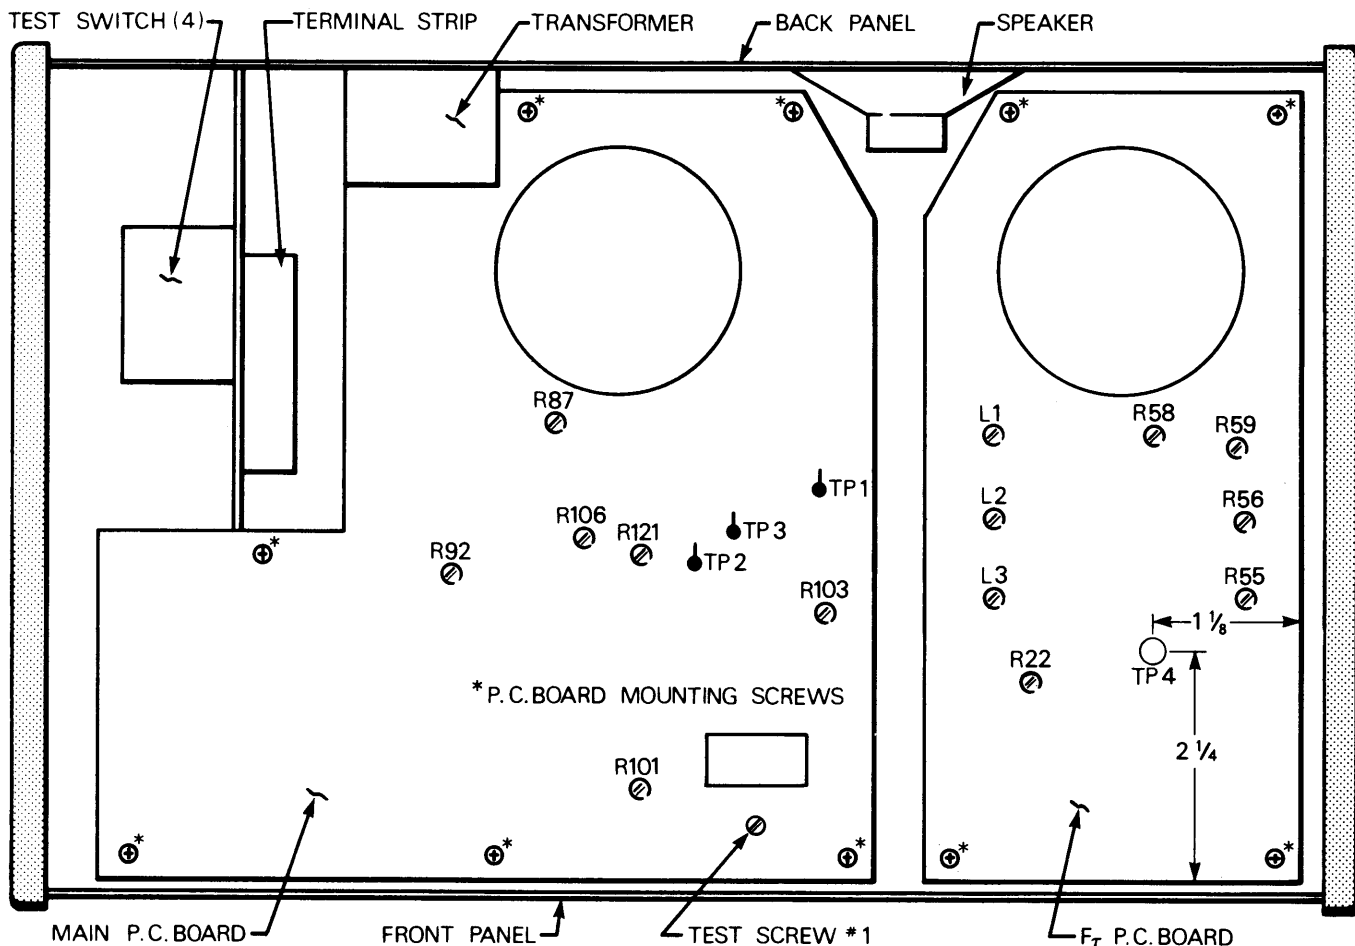
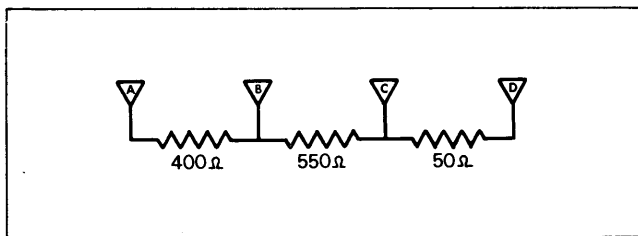
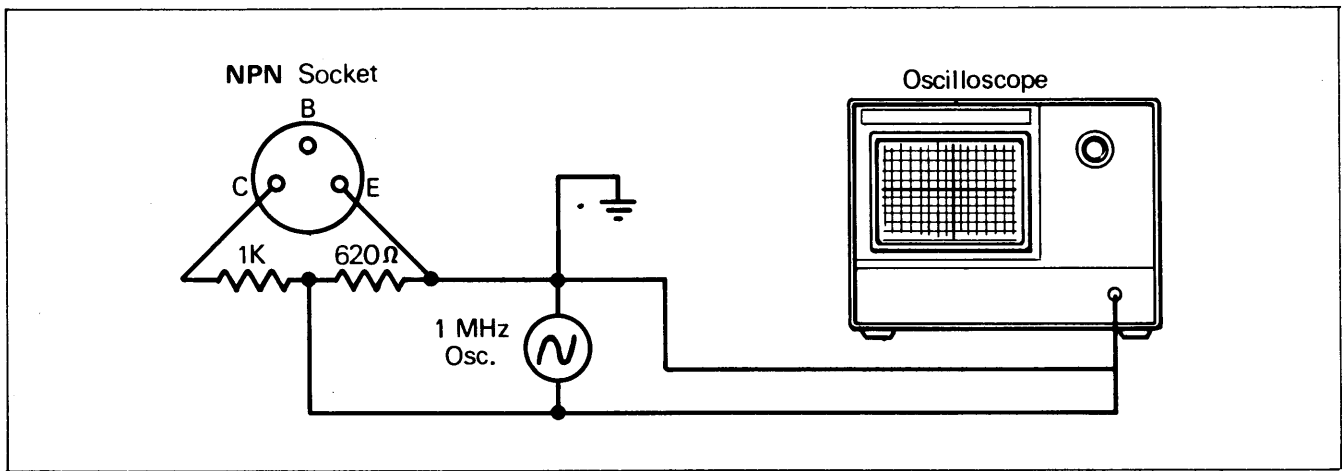

Fig. 8. Bottom view of Model 530, with bottom panel removed.
Fig. 9. Resistive network.
Fig. 14. Field calibration,  $f_r$  circuit.
1. Turn the Model 530 power off. If LEAKAGE/GAIN meter (19) does not indicate zero, insert a suitable screwdriver in the hole just below the meter and adjust it to indicate zero on top scale.
2. Turn the Model 530 power on, if the LEAKAGE/GAIN meter (19) indicates zero on top scale, proceed to step #4. If the LEAKAGE/GAIN meter (19) does not indicate zero, turn the 530 power off, unplug the unit and remove the 530 bottom panel by removing the five screws (three on bottom panel and two on back panel).
3. Plug in the unit and turn power on. Adjust the zero control trimpot R-87 with suitable screwdriver so that meter is at zero. Refer to Fig. 8 for trimpot location.
4. With power on, set the HI PWR/LO PWR switch (10) to "LO PWR" position. Turn TRANSISTOR BETA/FET  $g_m$  switch (9) to "TRANSISTOR BETA" position. LEAKAGE/GAIN meter (19) should read zero on top scale; if not, remove bottom panel of the 530 and adjust zero  $\beta$  CAL
trimpot R-106 with suitable screwdriver (while holding the TRANSISTOR BETA/FET  $g_m$  switch (9) in "TRANSISTOR BETA" position) so that the LEAKAGE/GAIN meter (19) reads zero on top scale. Refer to Fig. 8 for trimpot location.
- The Model 530 LEAKAGE/GAIN meter (19) should read  $900 \mu\text{A}$  on top scale. If meter does not read  $900 \mu\text{A}$ , unplug the 530 and remove the bottom panel.
- Plug the 530 into the power source and repeat step #5. With suitable screwdriver, adjust trimpot R-103 so that LEAKAGE/GAIN meter (19) reads  $900 \mu\text{A}$  on top scale. Refer to Fig. 8 for trimpot location.
- Build yourself a simple resistive network as shown in Fig. 9 (either by fixed resistors or by adjusting trimpts).
- Remove the small grounding TEST screw #1 and washer from back of the main P.C. board (at the corner next to the pushbutton switch). Refer to Fig. 8. Connect a lead between point "A" of the resistive network (Fig. 9) and main P.C. board test point 2 (TP-2); also connect a lead between point "D" (Fig. 9) and main P.C. board test point 3 (TP-3). Refer to Fig. 8.
- Set HI PWR/LO PWR switch (10), of the Model 530, to the "LO PWR" position. Set NPN/PNP switch (12) to the "NPN/N-CH" position. Lever Test switch (4) should be in the top-most position. Connect the blue test lead, which should be plugged into the blue test lead socket (6), to point "C" of resistive network (Fig. 9).
- Plug the Model 530 into the power source and turn power switch (11) on. Turn TRANSISTOR BETA/FET  $g_m$  switch (9) to "TRANSISTOR BETA" position. LEAKAGE/GAIN meter (19) should read "50" on LO  $\beta$  scale. If not, adjust main P.C. board trimpot R-121 with suitable screwdriver (while holding the TRANSISTOR BETA/FET  $g_m$  switch (9) in "TRANSISTOR BETA" position), so that the meter reads "50" on LO  $\beta$  scale. Refer to Fig. 8.
- Connect the blue test lead to point "B" of the resistive network (Fig. 9). Turn the TRANSISTOR BETA/FET  $g_m$  switch (9) to "TRANSISTOR BETA" position. The LEAKAGE/GAIN meter
(19) should read full scale. If not, adjust main P.C. board trimpot R-101 with suitable screwdriver so that LEAKAGE/GAIN meter reads full scale. Refer to Fig. 8. Unplug the Model 530 from power and disconnect all leads. Replace test screw #1 and washer to its original position. Refer to Fig. 8.
1. Turn Model 530 off. If  $f_r$  OUT-OF-CIRCUIT meter (18) does not indicate zero, insert a suitable screwdriver in the hole just below the meter and adjust it to indicate zero on the top scale.
3. Turn Model 530 power on. Without any transistors plugged into  $f_r$  sockets (15) or (16), check for  $f_r$  meter (18) reading of zero for each range selected on the RANGE, MHz Switch (17). If the  $f_r$  meter (18) does not read zero, adjust R-55 to obtain a zero reading (Fig. 8).
- (d) Adjust R-22 for a collector current of 10 milliamperes (See Fig. 8 for location of R-22).
- (b) Insert NPN transistor into front panel socket labeled NPN (16). All frequency measurements are taken at TP-4. See Fig. 8 for location of TP-4 and oscillator coils.
- (a) Connect two resistors in series and connect to Model 530 NPN Transistor Socket (16) as shown in Fig. 14. Turn power on. (See Fig. 8 for location of R-56, R-59 and R-58).
- (b) Set Range Switch (17) to 0-100.
- (d) Adjust R-56 for a reading of 60 on the top scale of the  $f_r$  meter (18).
- (e) Set Range Switch (17) to 0-500.
- (g) Adjust R-59 for a reading of 60 on the top scale of the  $f_r$  meter (18).
- (h) Set Range Switch (17) to 0-1500.
- (j) Adjust R-58 for a reading of 54 on the top scale of the  $f_r$  meter (18).
- DRIVE switch (5).
- LO PWR/HI PWR test selector switch (10).
- NPN/PNP test selector switch (12).
- (b) Pull to remove knob from the LEAKAGE VOLTS control (14).
- (c) Pull to remove knob and remove the mounting nut from the TRANSISTOR BETA/FET  $\beta_m$  test selector switch (9).
- (f) Remove the six P.C. board mounting screws (identified with an asterisk in Fig. 8) from the main P.C. board located as follows: